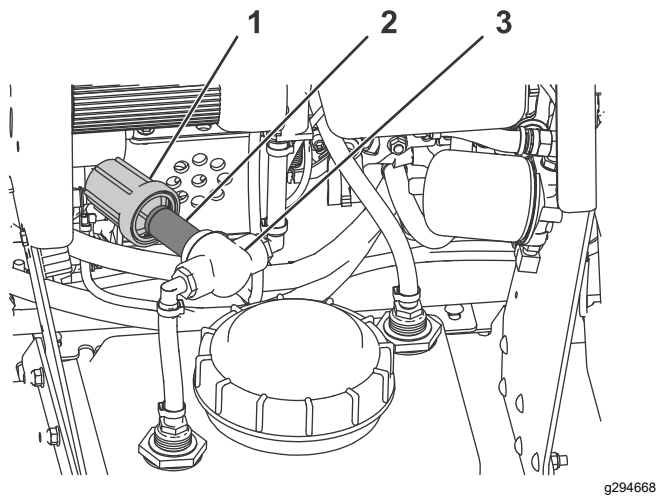

Figure 53
1. Clean the area around the in-line filter cap (Figure 53).